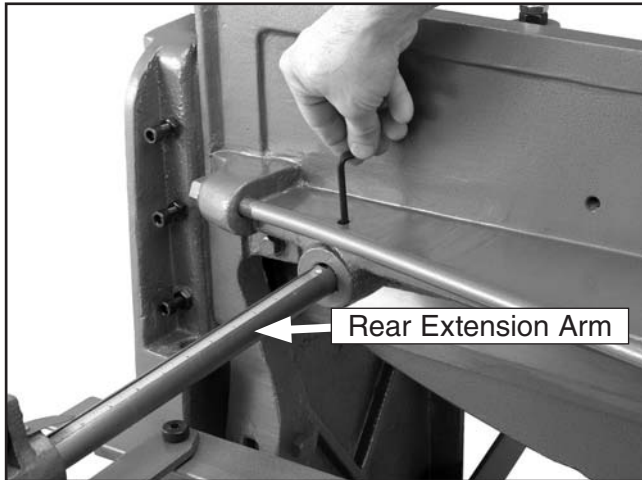

Figure 11. Installing rear extension arm.
2. Tighten the set screws (**Figure 11**).